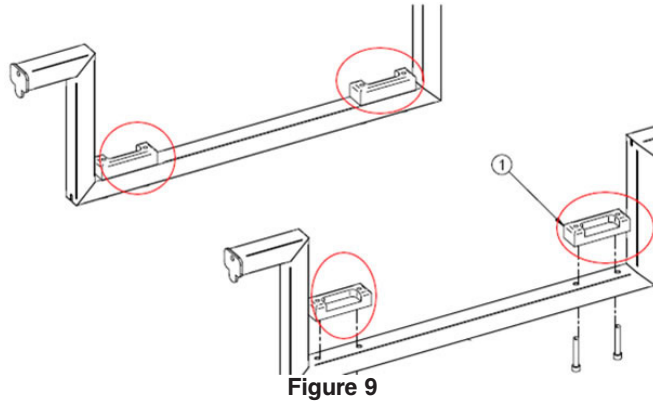

Figure 9
2. Lower the bed, until the lower fixed frame is completely supported by the U-shaped pieces of the fixture (see Figure 9).
7. Using a 1/2" combination wrench, remove the two bolts (D), two washers (C) and two shoulder spacers (B) holding the molded nut support to the elevation lever arm.
8. Using a 5/16" socket, remove the two screws (E) holding the actuator support cover (G) to the head lever arm and remove it.
9. Remove the two pivot pins (H) holding the motor (A) to the support. To ease the removal of the pins, insert a small regular screwdriver into the opening at the end of the motor and push out the pins.
10. Using a #2 Phillips screwdriver, remove the two screws (F) holding the plastic screw cover (J) to the motor. Remove the plastic screw cover and install it on the new actuator.
2. Lower the bed, until the lower fixed frame is completely supported by the U-shaped pieces of the fixture (see Figure 9, page 48).
9. Using a 1/2" combination wrench, remove the two bolts (D), two washers (C) and two spacers (B) holding the molded nut support to the elevation lever arm.
11. Remove the two pivot pins (H) holding the motor (A) to the support. To ease the removal of the pins, insert a small regular screwdriver into the opening at the end of the motor and push out the pins.